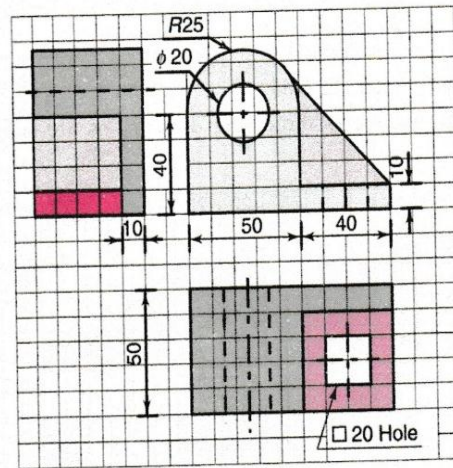

Fig. 5.90 3 views of a shaft support
**Solution** Refer Fig. 5.90
The required views are shown in Fig. 5.90.